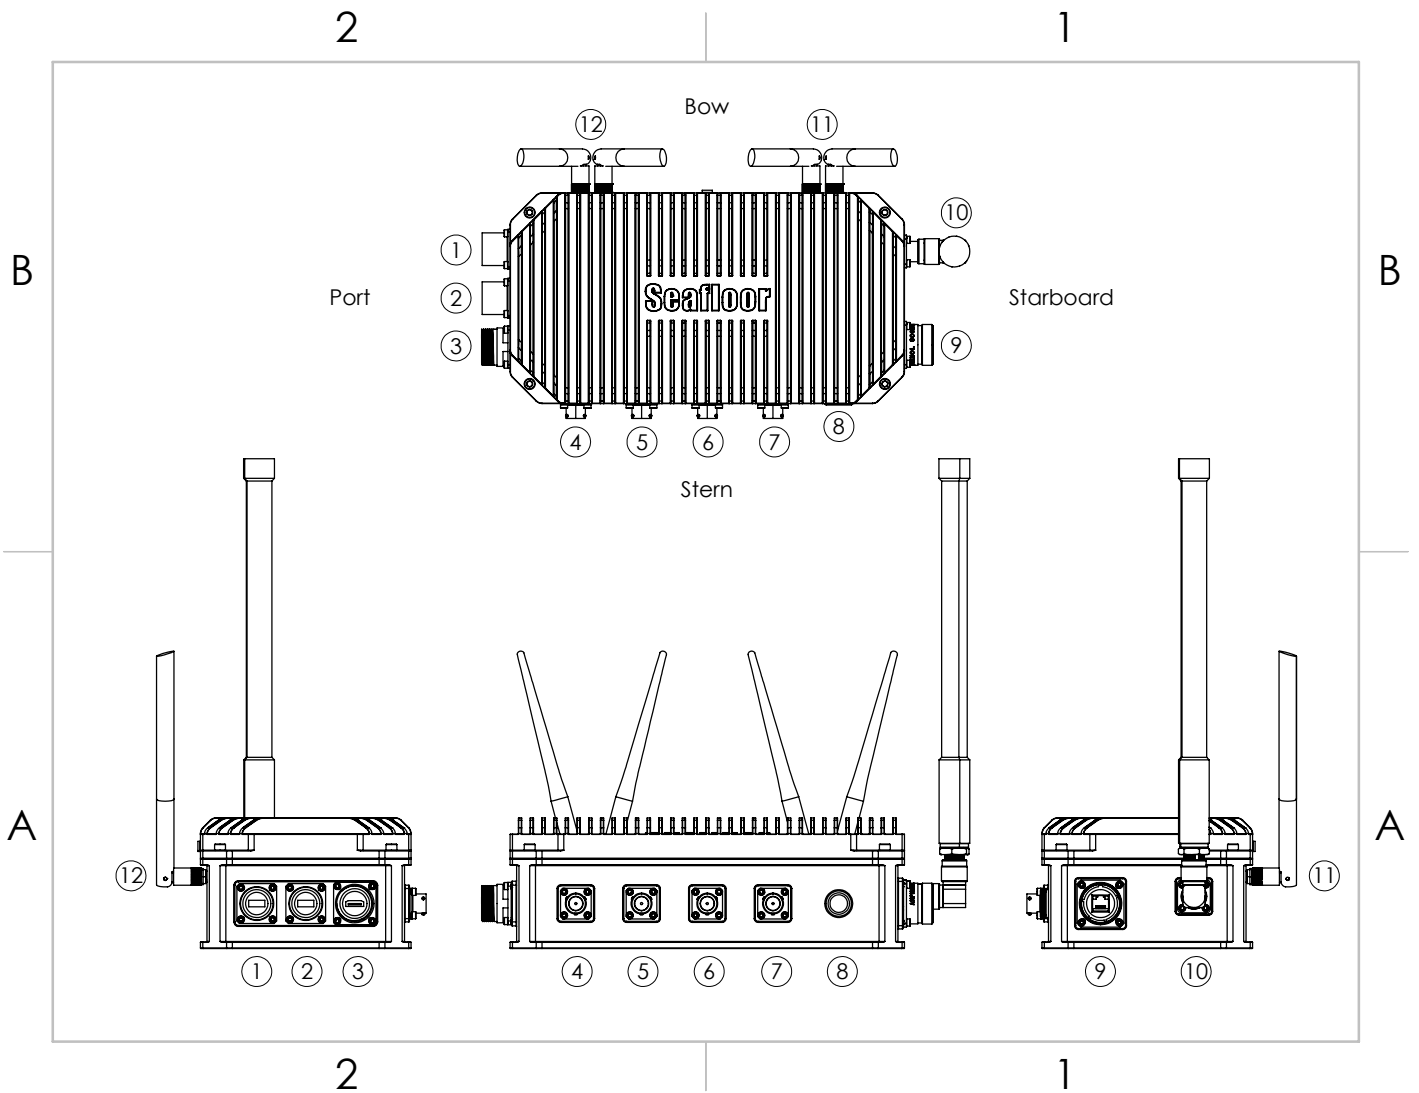

Figure 5: AutoNav Plus™ Layout
13. Place the AutoNav Plus™ on the Hydroner™ frame. Power button facing the stern. (Figure 5)